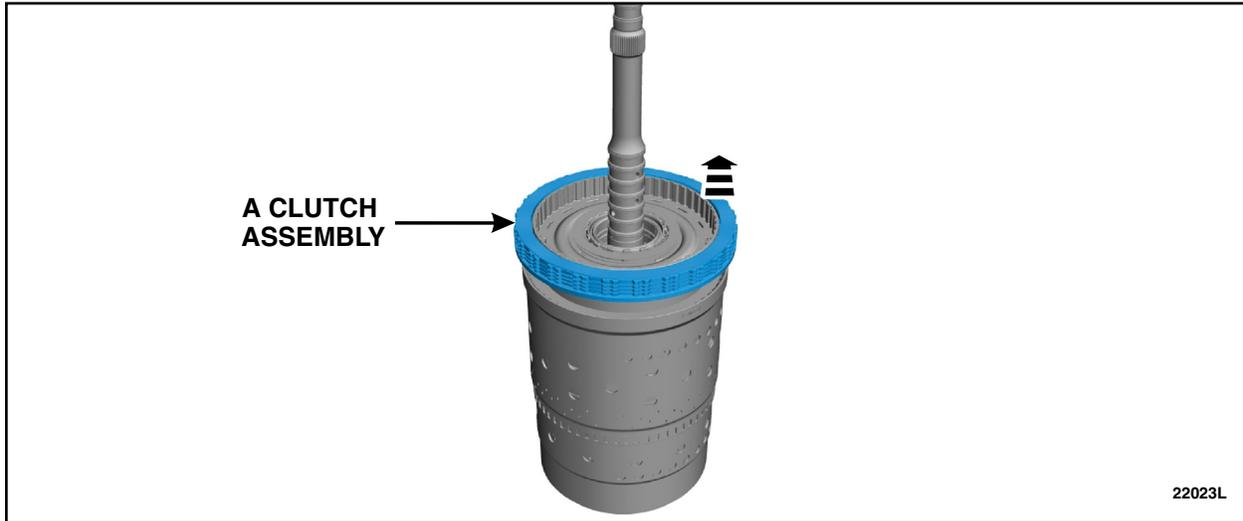

FIGURE 19
22. Remove the A clutch assembly. See Figure 19.